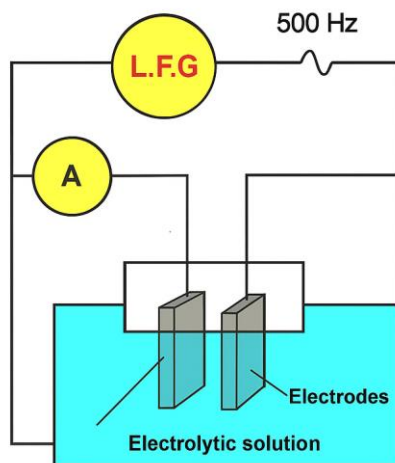

Figure 1: Conductance of an electrolytic solution.
To determine the conductance of an electrolyte solution, a low-frequency alternating voltage generator (LFG) is used (to avoid the electrolysis phenomenon) and connected to two conductive plates. The voltage (U) across the plates and the electric current (I) flowing through the circuit are measured (Figure 1).